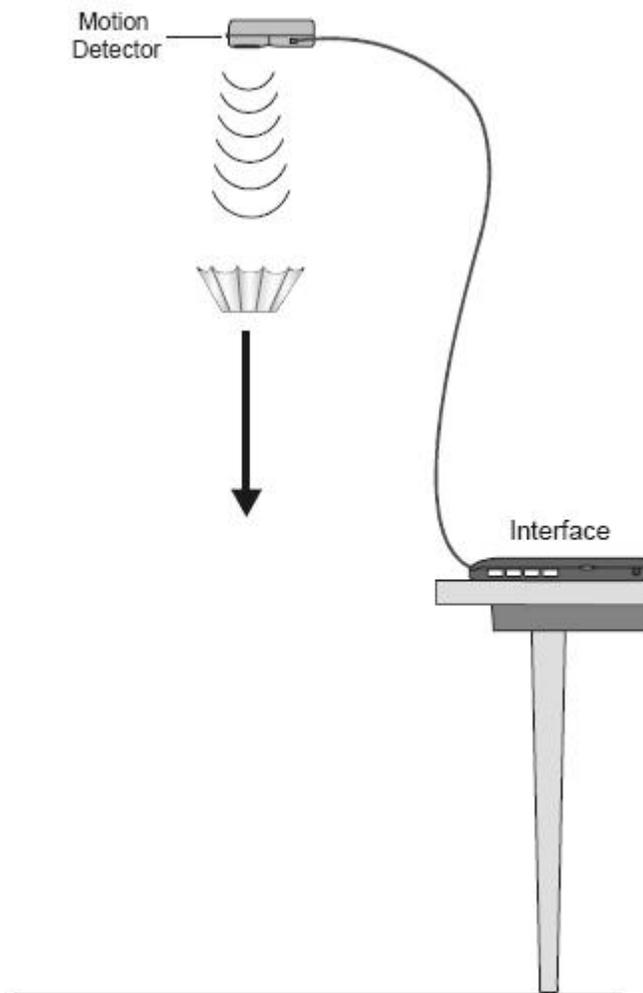

Figure 3: Experimental setup
3. Make sure the LabPro interface is plugged in and ready; the green LED on the motion detector (clamped to the stand overhead) should be lit. Your experimental setup should resemble figure 3. Try to make sure that your motion detector is oriented to point directly downward, rather than tilted at an angle. (If you need to adjust it, please use a stepladder rather than climbing onto a chair or table.) Also, be sure to start your drops from at least 30 cm (about 1 foot) below the motion detector. The detector is not sensitive to objects which are too close to it.